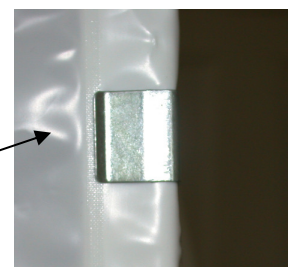

Figure 1 – SpeedFrame® Assembly
1. Assemble 1 SpeedFrame® chamber as shown in Figure 1. For non-SpeedDock frames, remove any plastic end caps on the top and bottom sections that project beyond the edge of the frame.